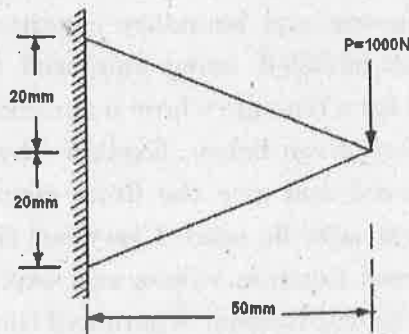

Fig. 14 (a)
- (ii) Derive the conduction matrix for a 3 noded triangular element whose nodal coordinates are known. The element is to be used for two dimensional heat transfer in a plate fin. (5)
14. (a) It is required to determine the transverse displacement and the stresses induced in the plate shown in Fig. 14 (a) using a one-element idealization. Determine the constitutive matrix and the strain displacement matrix and hence the stiffness matrix and the load vector. Assume $E = 205 \text{ GPa}$, $\mu = 0.33$, and $t = 10 \text{ mm}$.